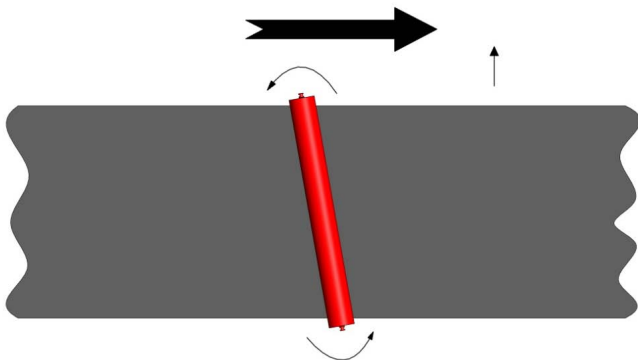

Figure 2.5 (above)
- Figure 2.5 below shows which direction the conveyor belt will track towards once rollers have been shifted from square to stringers. The angle has been exaggerated for demonstration and should not exceed 2 degrees in the field.